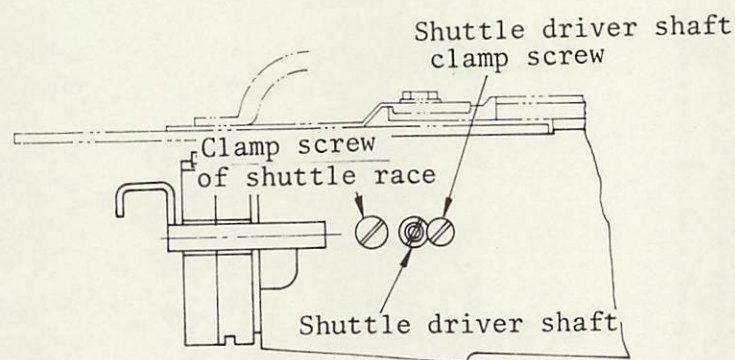

Fig.53
- \* To adjust the fore and aft direction of the shuttle race, loosen the clamp screw of shuttle race on the right front side of the bed, rotate the shuttle driver shaft and adjust the fore and aft direction of the shuttle race. (Fig.53)